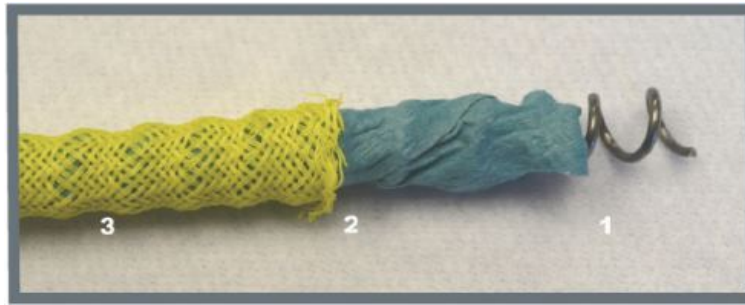

Figure 2. INJECTO® Tube Construction
A high strength spiral wire coil (1) prevents collapse during concrete placement, while the non-woven filter membrane (2) prevents the tube from being clogged with concrete particles. A bright yellow reinforced mesh sleeve (3) protects the tube and allows for easy inspection before the pour. Wherever old to new concrete surfaces join, the INJECTO[®] system can be easily installed (see Figure 2).